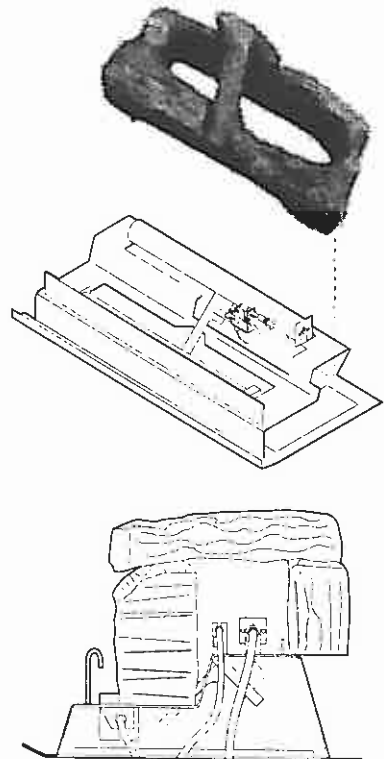

Figure 15
**Step 13.** The heater includes a unitized set of five (5) ceramic fiber logs. The heater and logs are assembled as shown in Figure 15. Handle these logs with great care. The logs can be easily damaged, but when handled properly they can provide years of performance and enjoyment.